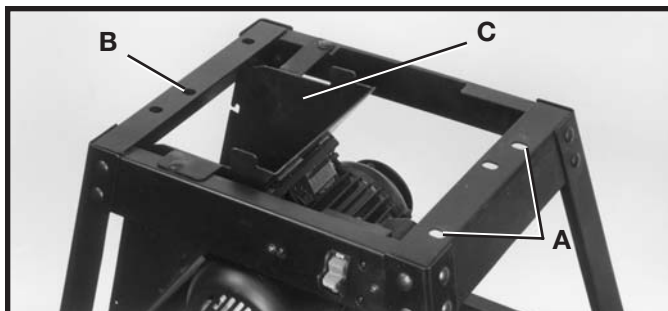
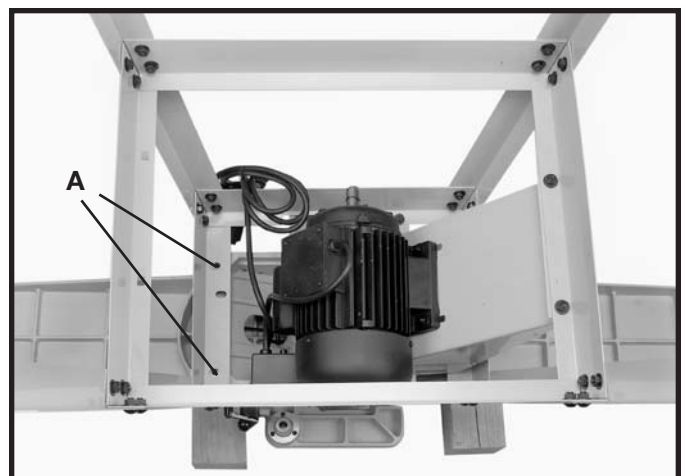

Fig. 9C
Fig. 9B
2. Turn the stand upside down and align the threaded holes in the bottom of the jointer with the holes in the stand, two of which are shown at (A) Fig. 9B. The infeed end of the jointer is fastened to the stand through these two holes (A) Fig. 9B and (A) fig. 9C. The outfeed end of the jointer is fastened to the stand through hole (B) Fig. 9C.